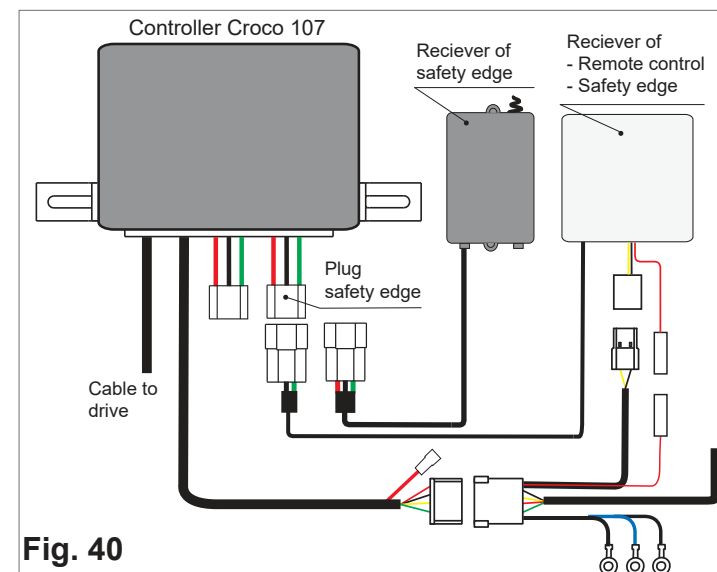

Fig. 40
**Croco 107:** Connect the corresponding receiver to the control unit as shown in Fig. 40.